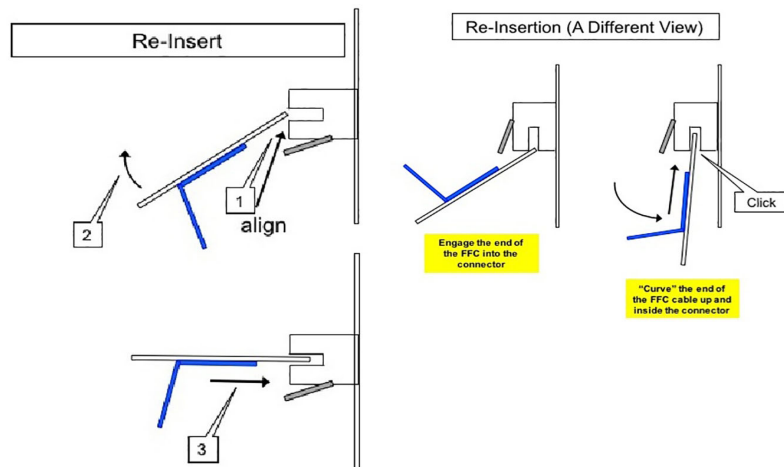

Figure 2 Proper FFC Cable Insertion.
3. Referring to Figure 2, grasp the grip tab of the FFC cable placing the back, or non-conductive Side, of the FFC cable against the edge of the connector and centered to the connector.